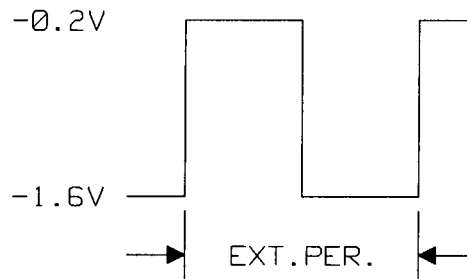

Figure 10.3-8. Period Generator Input pin 7
- Check the input signal from the trigger input circuit at pin 7 of U200 against Figure 10.3-8.